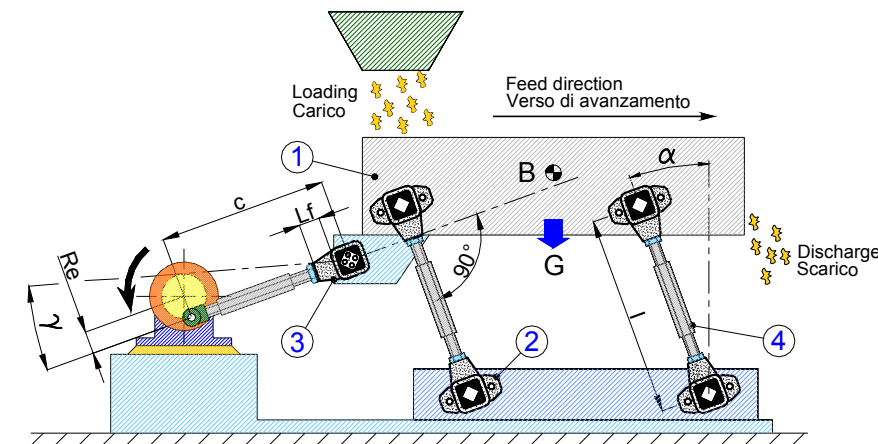

fig.1
The system shown in fig. 1 is the most simple and inexpensive method to build conveyors for medium to long sized loose-material. This system consists of a sliding chute (1) supported by oscillating mountings (2) actuated by a crank-shaft drive device (3). These conveyors are used with rigid structures and are firmly fixed to the ground because the vibrating channel may work with accelerations up to 1.7 g. For these reasons, correct calculating of the machine is essential, while the appropriate choice of the VIB elastic elements improves the vibration absorption and optimizes the execution of the vibrating channel. This system consists of a chute supported by suspensions, each formed by 2 **BT-F** and actuated by a connecting rod **TB** that acts as an elastic bearing. This simple application can be used anytime dynamic forces are not too high because **BT-F** are charged with all loads and stresses. Fig. 2 illustrates the ideal design of a suspension using one connecting unit obtained by turning an hexagonal bar. Bar-end must be right-hand threaded and left-hand threaded respectively: this allows unavoidable adjustments of the interaxle distance which can be done with a wrench when setting up the system. In VIB range, oscillating mountings **TP-S** or **TP-F** are designed for use with similar engineering systems but with fixed suspension interaxle distance. During the design phase, power can be reduced by making the plant work under resonance condition, that is to say under a frequency near to the system one. Under this particular condition, the oscillation amplitudes increase a lot and giving the chance to reduce motor drive power with higher structure stresses.